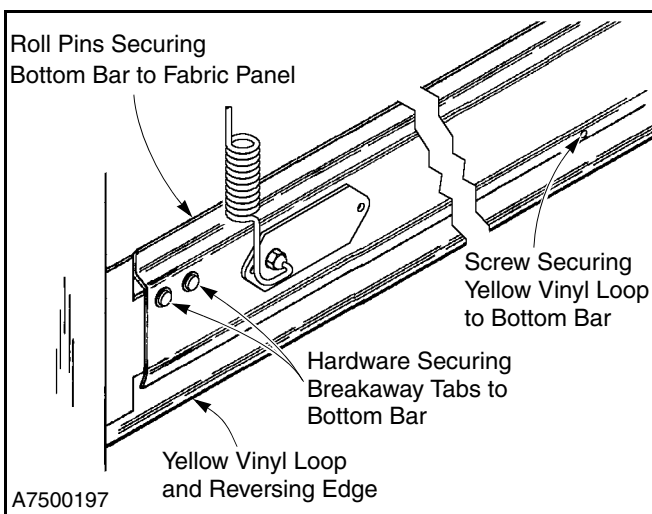

Figure 16
- Inspect the roll pins securing the bottom bar to the fabric. It is critical that hardware is tight to prevent shifting of the fabric in the bottom bar. (See Figure 16.)